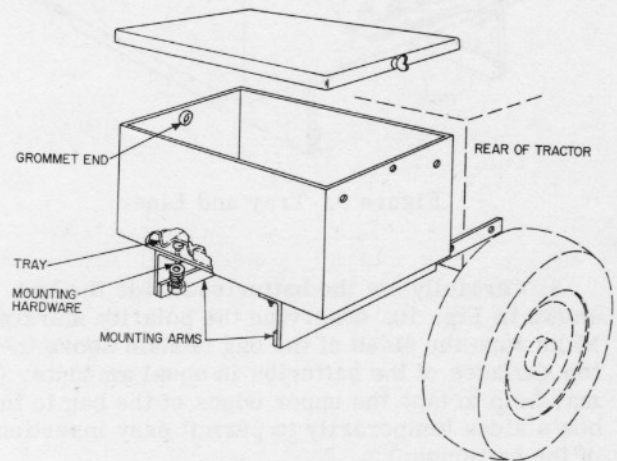

Figure 8. Box Assembly
2. Insert the support brackets into the frame openings at the rear of the tractor so their open sides face each other and their horizontal surfaces are on the top. See Fig. 8.